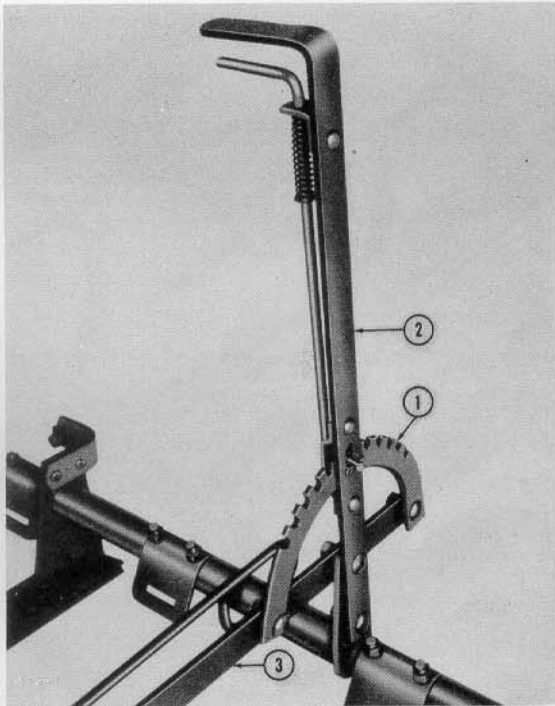
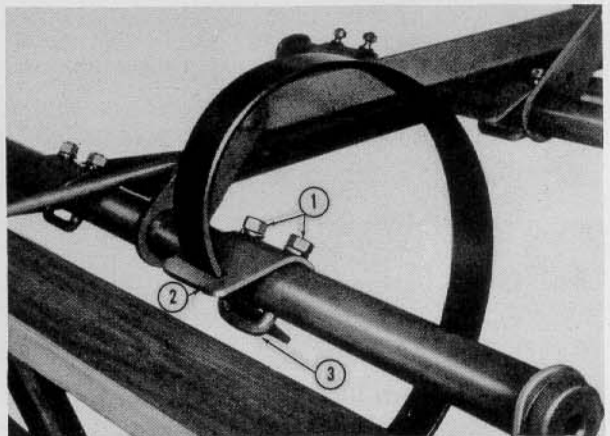

Figure 4
Figure 5
- b. Loosen the two nuts (1), Figure 5, on all U-bolts sufficiently to permit square end of spring tooth to pass through tooth clip (2) and through U-bolt (3).
- d. Tighten nuts (1) finger tight. This will permit adjustment of teeth later on.
2. Bolt ratchet (1), Figure 4, and lever assembly (2) to the *left* side of the shift bar (3), as shown.